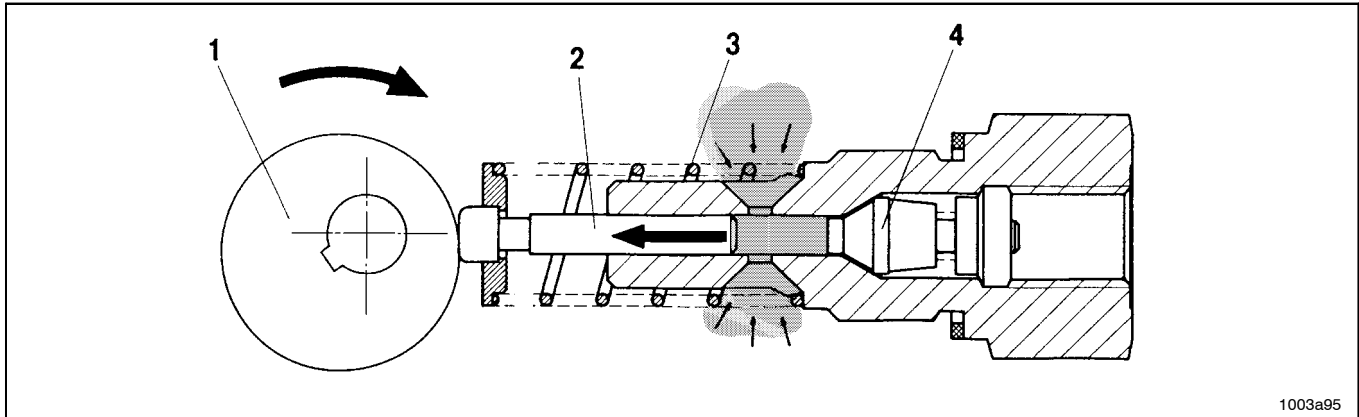

Fig. 7 The pump element sucks in lubricant
- piston (pos. 2) sucks in lubricant from the reservoir (refer to fig. 7).